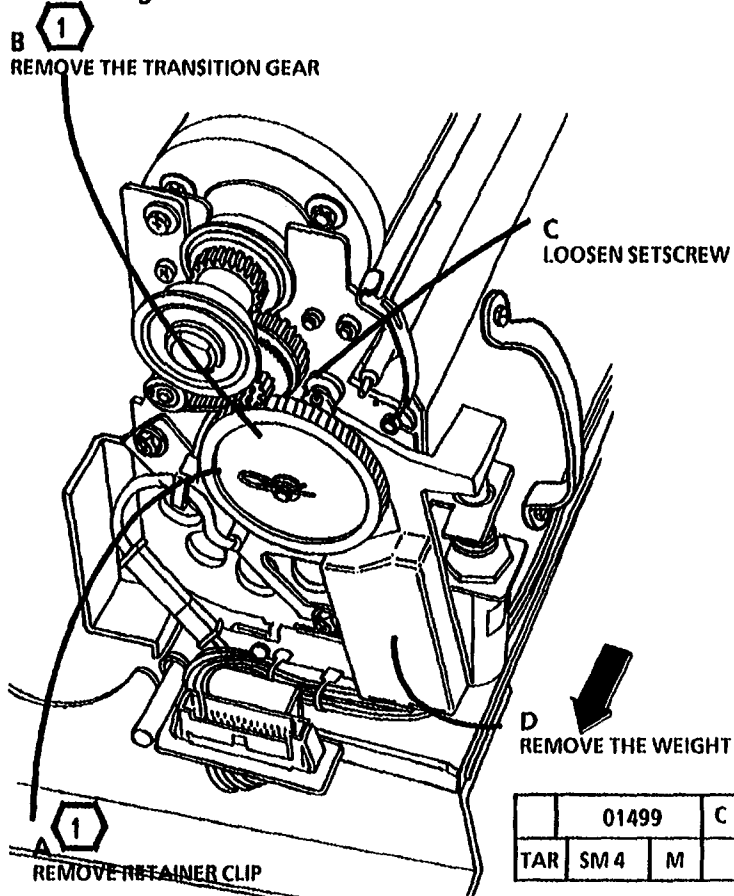

Figure 2. Remove the Transition Gear and Weight
8. (Figure 2): Remove the Transition Gear and Weight.